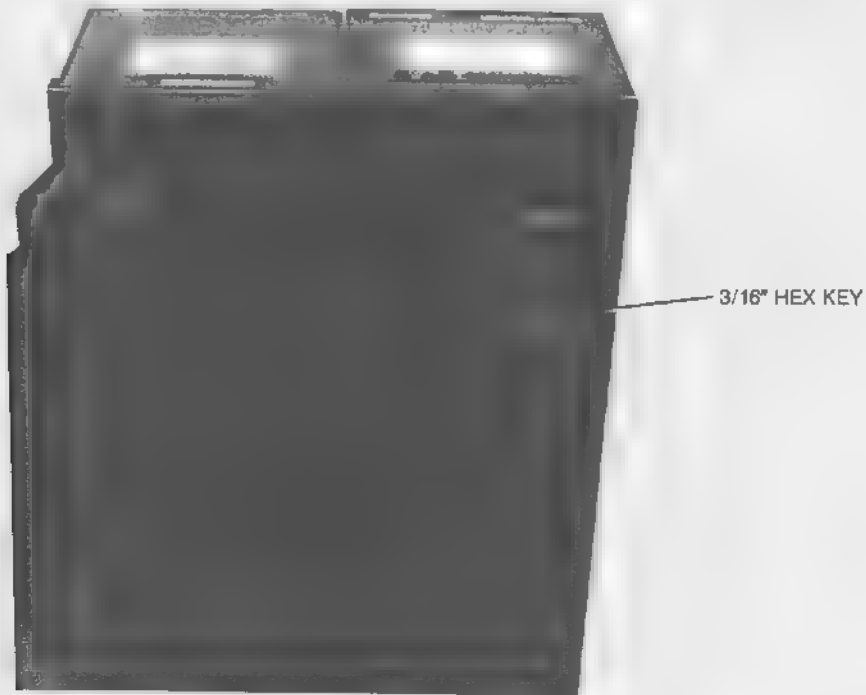

Figure 4-1. Remove screw A to release the WFM from the mounting plate
2. Remove the 1/4-20 hex head cap screw labelled A in Figure 4-1. Use a 3/16" hex key.